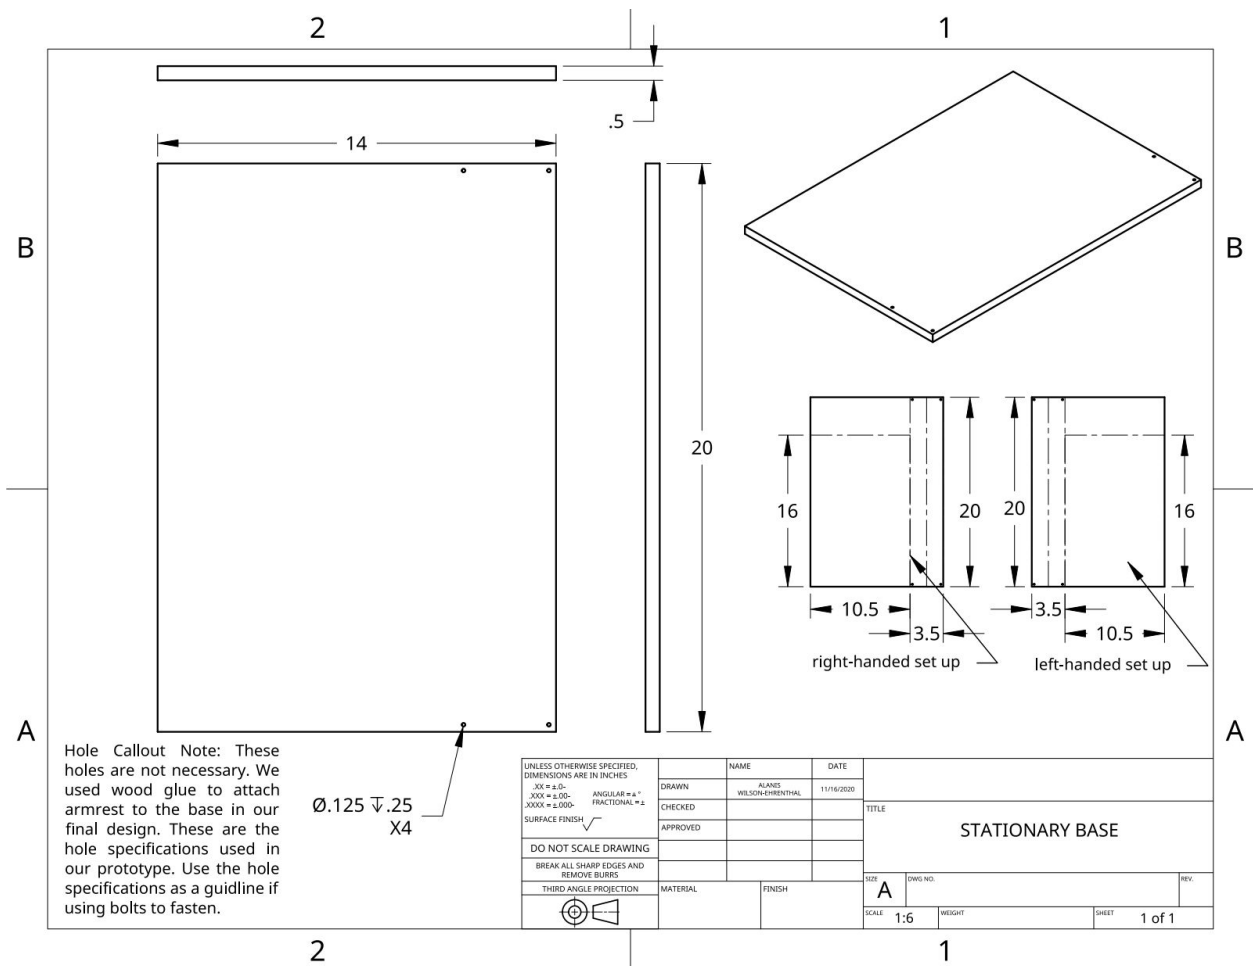

Figure 1
2. Cut 14" × 20" section of MDF for Base (Figure 1)